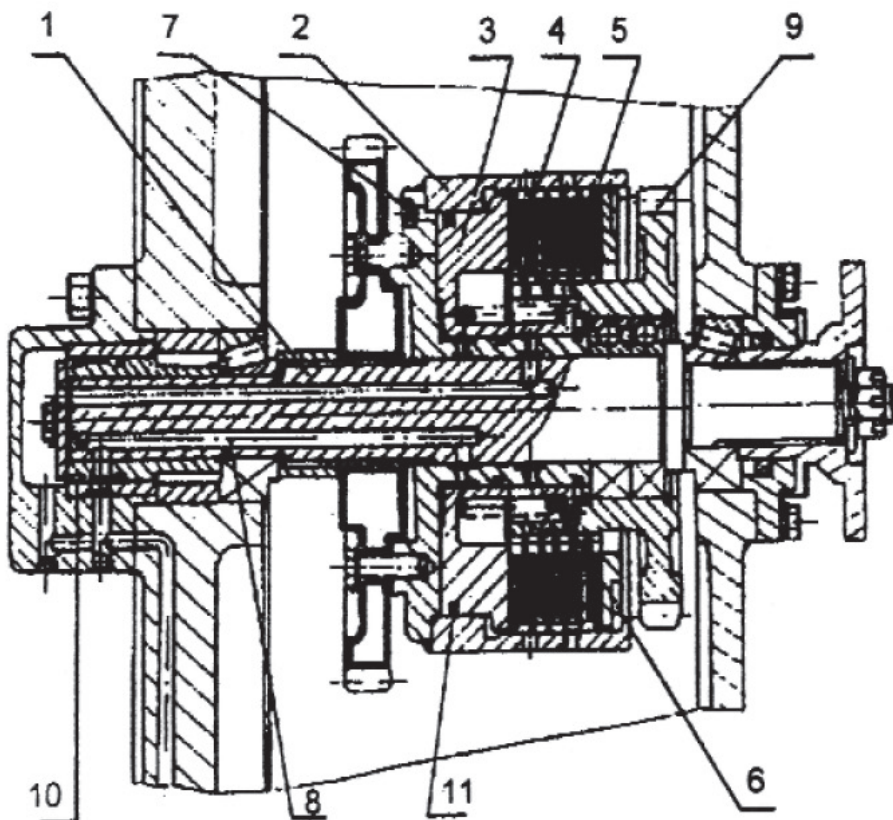

Figure 2 Structure of hydraulic clutch
As illustrated in figure 2, a hydraulic clutch consists of clutch driving shaft (1), clutch housing (2), piston (3), exterior friction plate (4), interior friction plate (5), return spring (6) and clutch emptying valve (7). When flow of hydraulic oil enters head end of cylinder, piston is pushed to move forward pressing drive and driven friction plate to make driving shaft and gear to rotate, cut off hydraulic oil, and thus clutch emptying valve opens automatically to press spring (6) to return.
As illustrated in figure 2, the hydraulic clutch consists of 6 clutch drive plates and 5 driven plates. The driven plate has a 0.5 mm crown and the crown side should face piston. Gap-clearance of piston ring should be ground and its width within 0.05~0.1 mm.